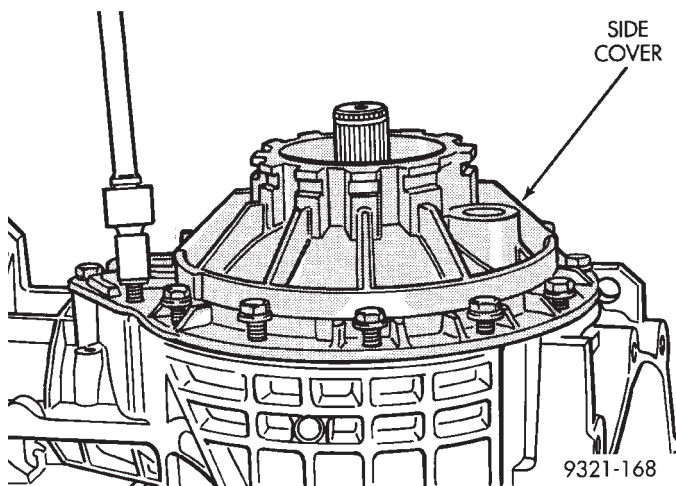

Fig. 317 Differential Cover Installation
(26) Install differential cover (Fig. 317). Do not apply silicone sealant at this time. All bolts should be installed and tightened.